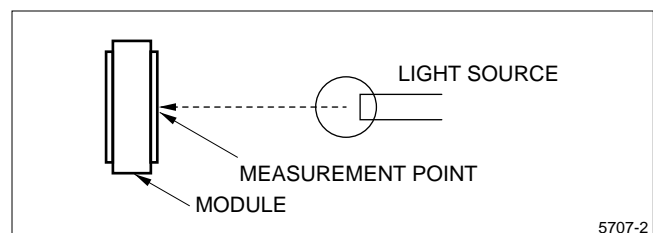

Figure 1. Measurement Point
3. Measurement point: panel surface (Figure 1).